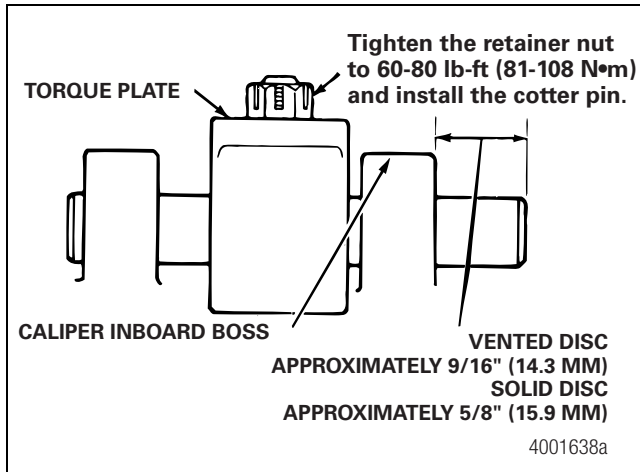

Figure 10.19
9. To correctly install the slide pin, the pin must extend past the inboard boss of the caliper as shown in Figure 10.19.
11. Tighten the nut on the slide pin retainer to 60 lb-ft (81 N•m). Figure 10.19.